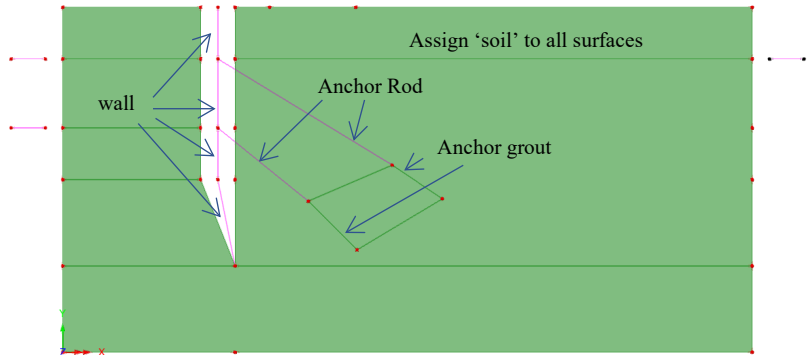

Figure 26: Assignment of mesh attributes
- Then, in turn, assign the **wall**, **Anchor Rod** and **Anchor Grout** line mesh attributes to the appropriate features (figure 26).